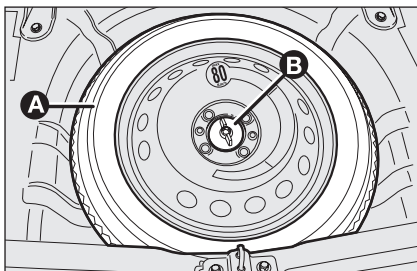

fig. 4
- loosen the clamping device **B-fig. 4**;